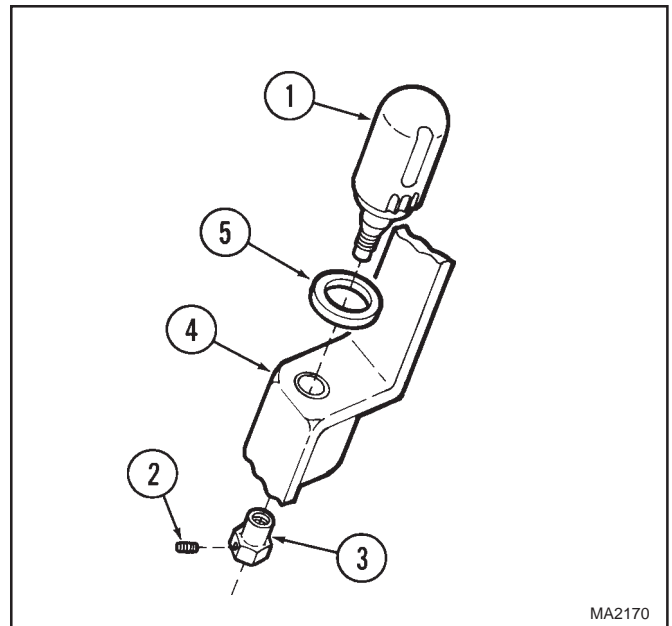

Figure 4-47. Ratchet Knob Removal / Installation
- (1) If removing one of the four ratchet knobs mounted on the back casting, remove the back cover (Refer to para 4-2). If removing one of the two ratchet knobs mounted on the seat casting, remove the table top (Refer to para 4-18).
- (2) Rotate ratchet knob (1, Figure 4-47) until setscrew (2) can be reached and then loosen setscrew.